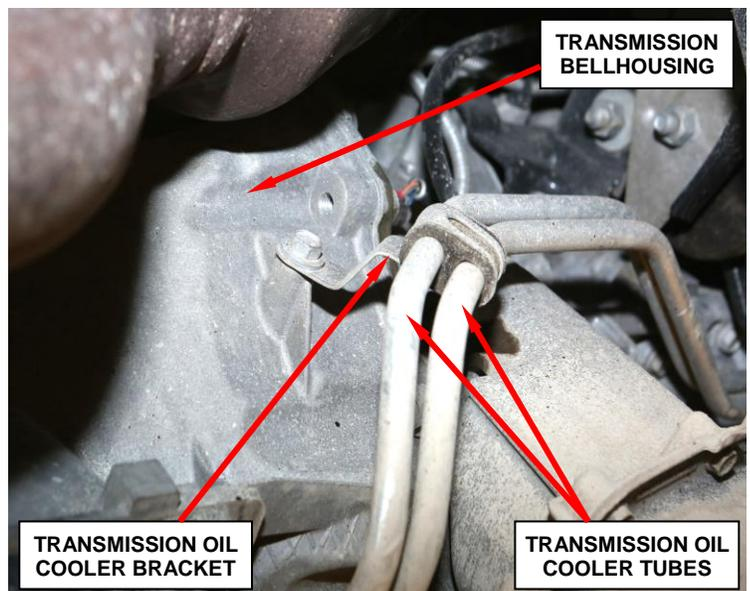

Figure 6 – Oil Cooler Tube Bracket
20. Remove and save the transmission oil cooler tube bracket on the right side of the bellhousing (Figure 6).
38. Install the transmission oil cooler tube on the right side of the bellhousing (Figure 6).